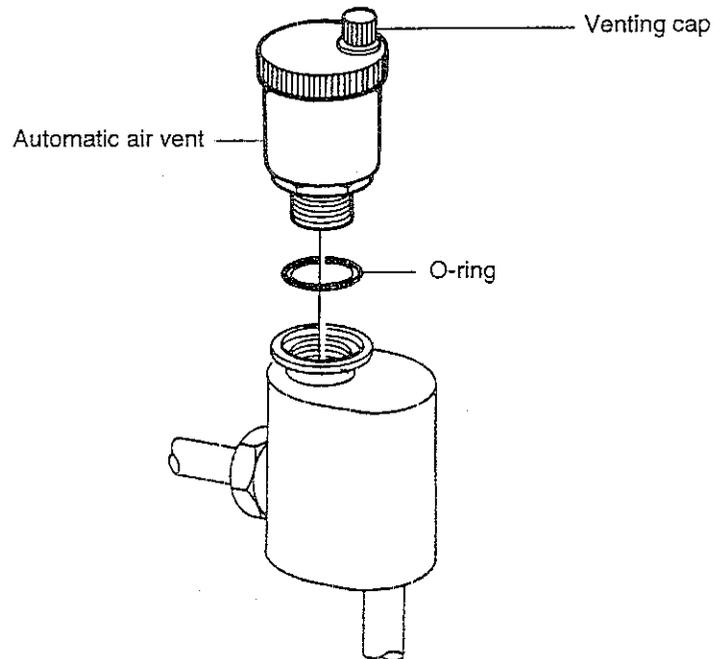

Fig. 41
- d) Re-assemble in reverse order ensuring the «O» ring is fitted (fig. 41) and that the venting cap is loose